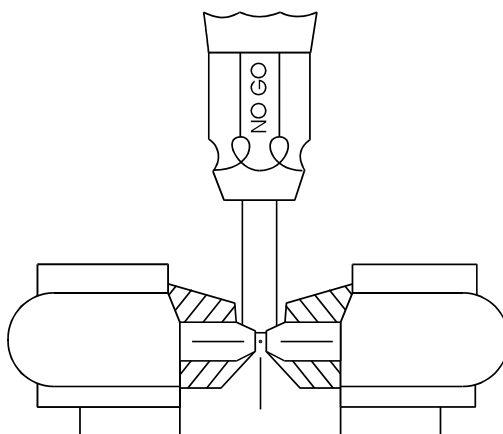

Figure 10-19 Testing a Crimp Tool
- e. Invert the inspection gauge while continuing to hold the handles in the fully closed position. Insert the 'No Go' gauge (Red) into the indenter opening, as shown in Figure 10-19. The gauge should not pass between the indenters. If the 'No Go' gauge does pass through the indenters, have the tool repaired.